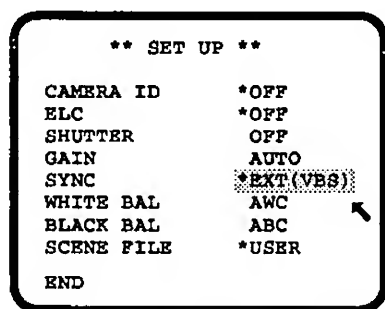

Fig.32.
- Supply the black burst signal(BBS) or composite color video signal (VBS) to the Gen-lock Input Connector (20) and confirm that "INT" position has been changed into the "EXT (VBS)" indication as shown in Fig.32.